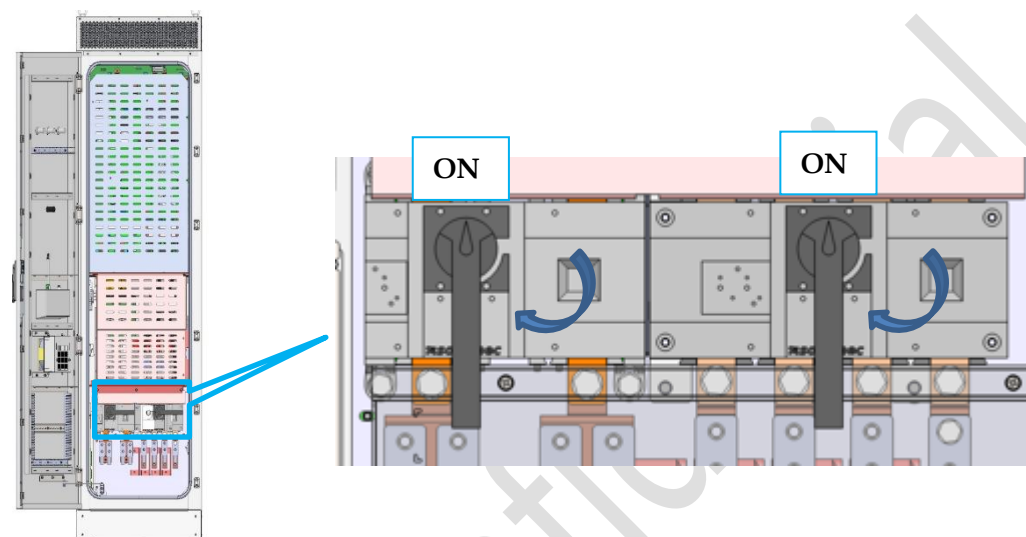

Figure 5-1 AC and DC disconnects ON location
Step 2: turn the AC and DC switches/disconnects in the front of the cabinet to ON state as shown in Figure 5-1. The PCS powers on and enters standby mode.
Step 3: set the correct IP address (Default:192.168.1.136) and port number (502) and start communicating with PCS100HV.